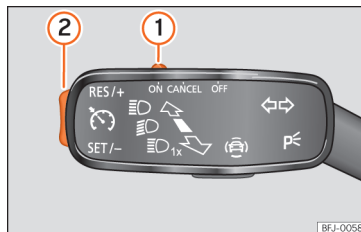

Fig. 173 On the turn signal lever: controls for operating the GRA.
- Move the control » **Fig. 173 1** to **ON**.
- Press button » **Fig. 173 2** in area **SET/-**.
- Move the control » **Fig. 173 1** to **CANCEL** or step on the brake.
- Press button **»» Fig. 173 ②** in area **RES/+**.
While the GRA is set, the stored speed can be adjusted with button **»» Fig. 173 ②**:
- To increase in increments of 1 km/h (1 mph) briefly press button **»» Fig. 173 ②** in the area **RES/+**.
- To increase the speed without interruption, keep button **»» Fig. 173 ②** pressed down in the area **RES/+**.
- To reduce in increments of 1 km/h (1 mph) briefly press button **»» Fig. 173 ②** in the area **SET/-**.
- To reduce the speed without interruption, keep button **»» Fig. 173 ②** pressed down in the area **SET/-**.
- Move control **»» Fig. 173 ①** to **OFF**.